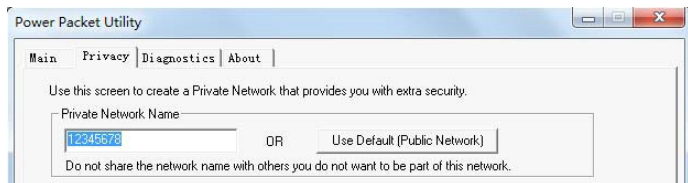

Figure 18 Set the network name for your PLC
- Step 3** Click the **Privacy** tab page. Enter a name in the **Private Network Name** field. See **Figure 18**.